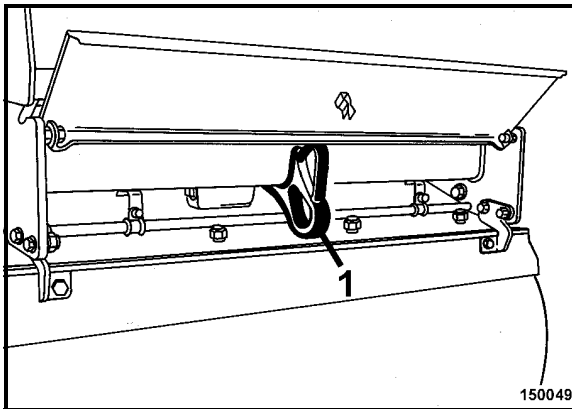

Fig. 103
- Tow the machine by the front or rear towing eye (1) (Fig. 103).